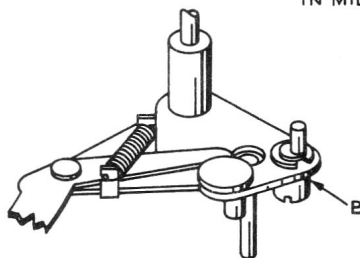

Fig. 40
2. Set the landing adjustment stud (B) as shown (mid-adjustment). (See Figs. 40, 41.)